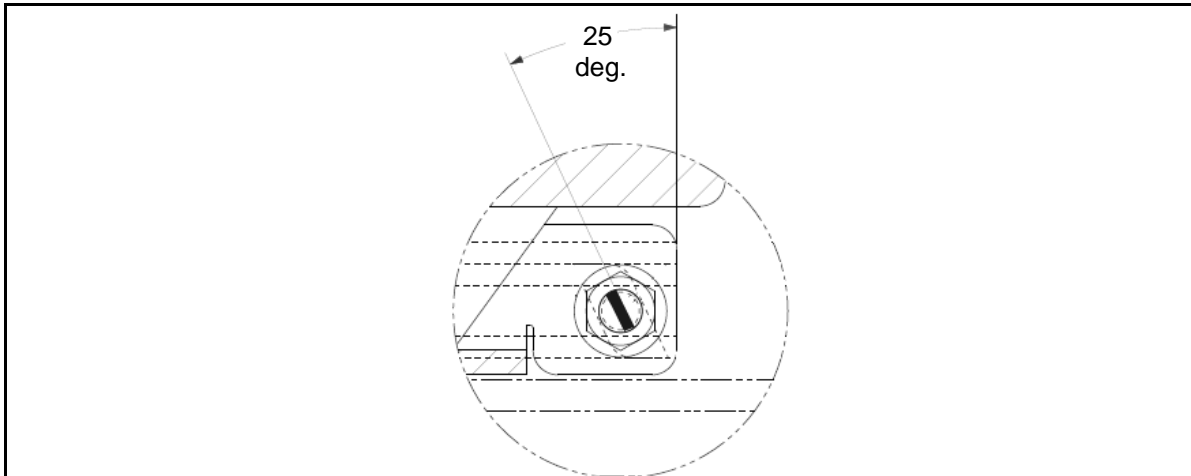

Figure 6. Sidewall track t-bolt locked angle.
14. Orient and align three (3) new t-bolts, p/n 3R-11-24, with the marks made on the sidewall track. Rotate the t-bolt to lock into the sidewall track. The notch on top of the t-bolt should be at 25 degrees when locked in place as shown in Figure 6.